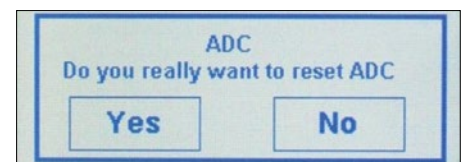

Figure 5
b) After 3 seconds, the confirmation pop-up message (figure 5) will be displayed.